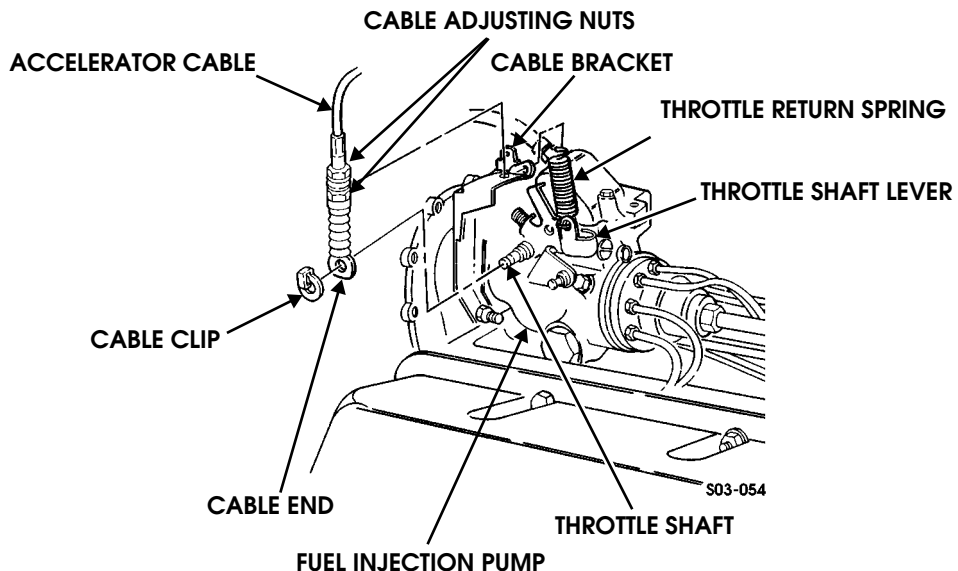

Figure 3-71: Throttle Shaft Lever Location (NA Diesel)
1. Loosen accelerator cable adjusting nuts (Figure 3-71).